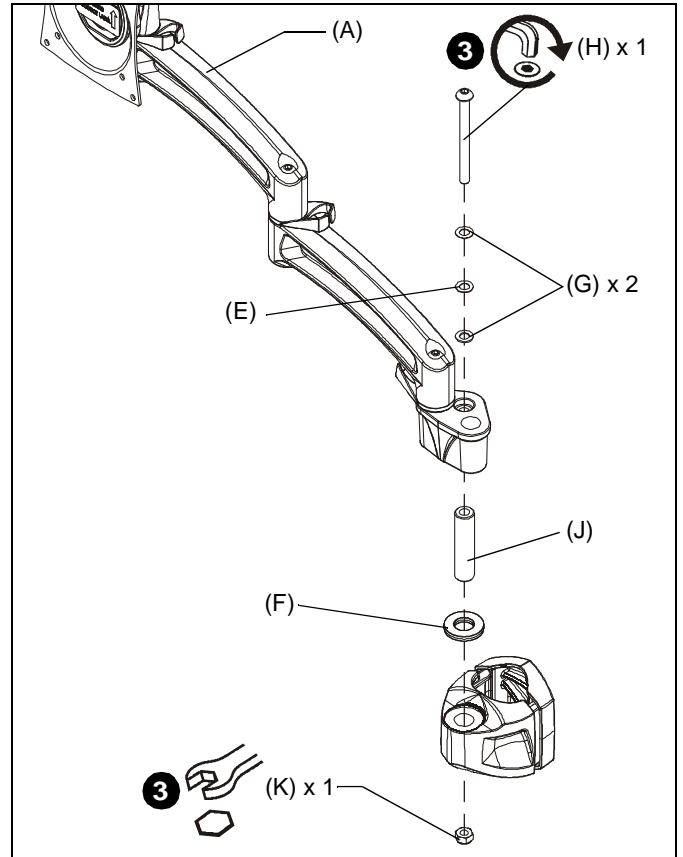

Figure 2
- Attach single monitor arm assembly (A) to original mount base using one 5/16-18 x 3 1/8" button head cap screw (H), one plastic washer (E), two stainless steel washers (G), one pivot pin (J), one pivot point spacer (F), and one 5/16" lock nut (K). (See Figure 2)